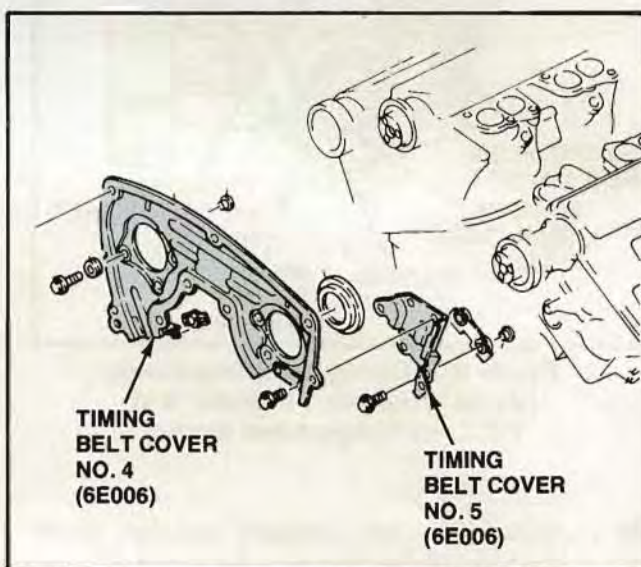

Figure 126. Installing Timing Belt Covers Nos. 4 and 5
3. Install the timing belt cover No. 5 (Fig. 126). Tighten the attaching bolts to 7.1-11 N·m (5.2-7.8 lb-ft).